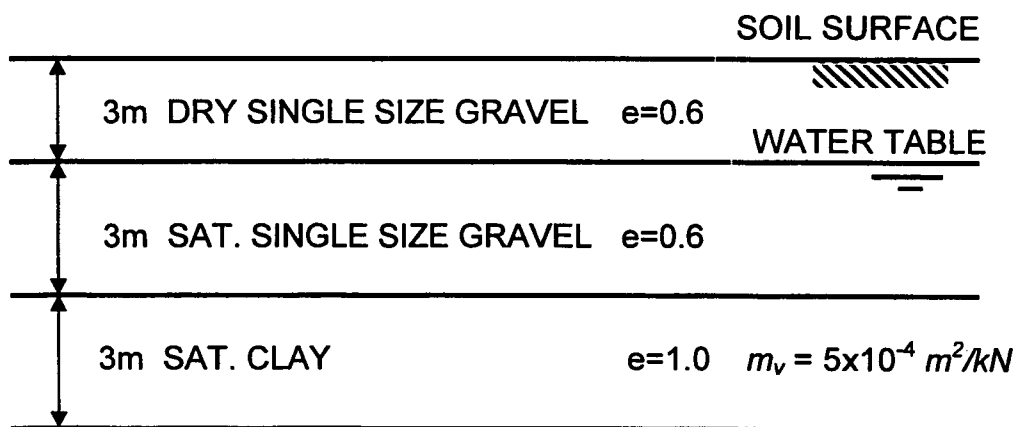

Figure Q1
- (b) Figure Q1 is a soil profile showing gravel overlying clay. If the specific gravity, G_s , of both gravel and clay particles is 2.7, determine and draw the variation of total vertical stress, pore water pressure and effective vertical stress with depth for the soil profile.